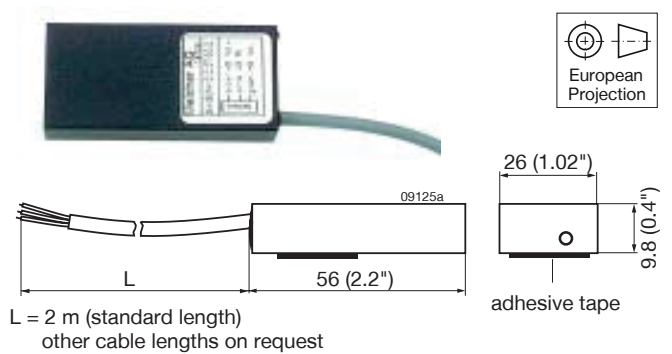

Fig. 38
- Different battery sensors S-KSMH... for using the converter as a battery charger. Different cell characteristics can be selected; see fig. 38, table 13, and *Battery Charging/ Temperature Sensors*.